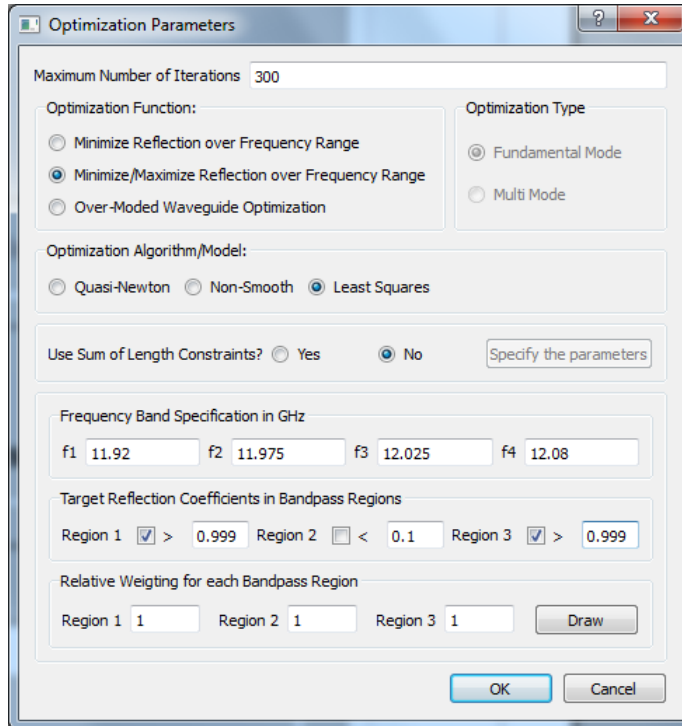

FIGURE 28. Optimization parameters for band pass filter
5. In the *Optimization Parameter* window, set the input as shown in Figure 28. The *Least Squares* algorithm is chosen because it is more efficient when the number of frequency steps exceeds the number of optimized variables.